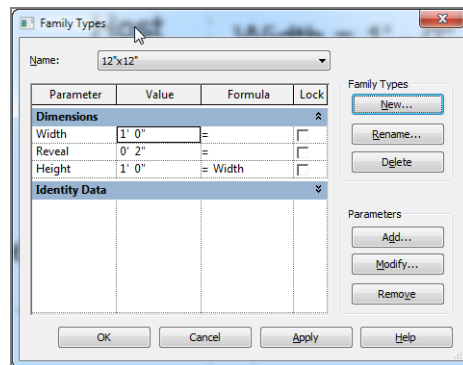

FIGURE 17.10: Creating a new family type
10. Click the New button in the Family Types area, as shown in Figure 17.10.
11. Call the new type 12"×12" (300mm×300mm), and click OK (see Figure 17.10).